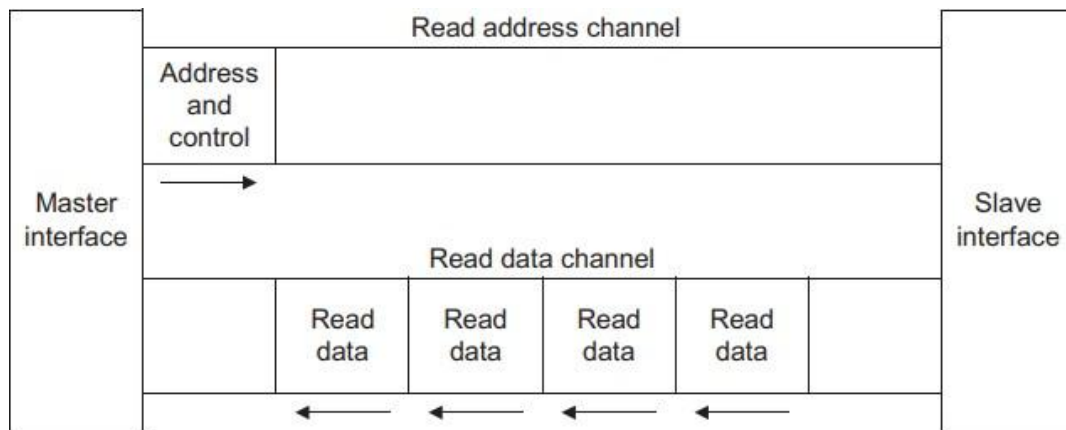
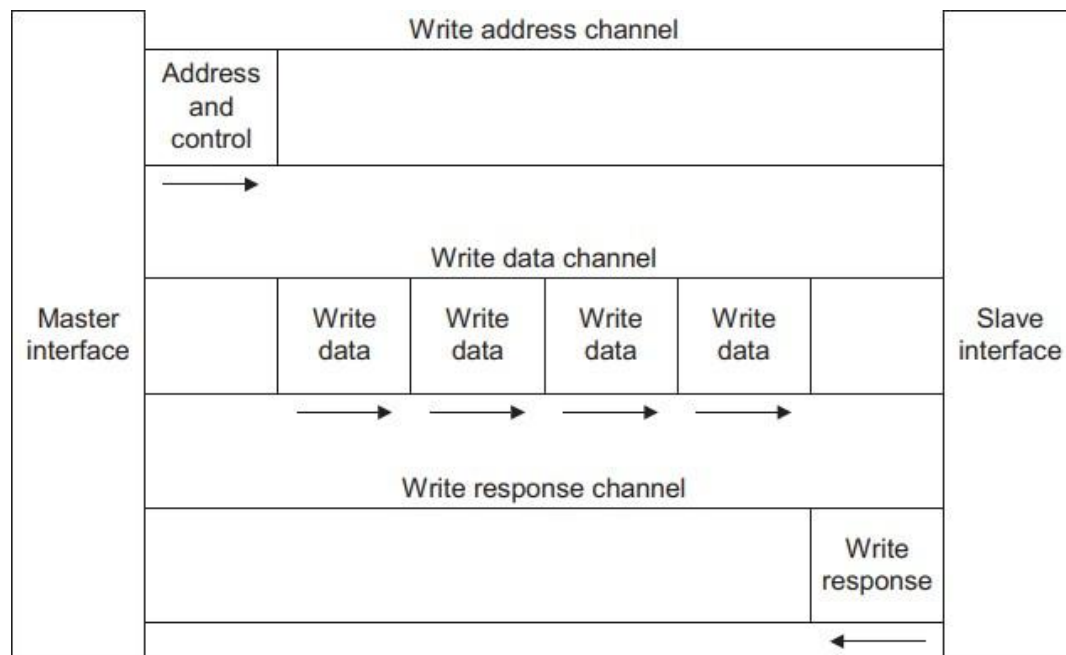

Fig. 1-1: AXI Read Channel Architecture
Fig. 1-2: AXI Write Channel Architecture
- g. The conceptual architecture of AXI architecture is shown in Fig. 1-1 and Fig.1-2. The TOP module of AXI code will be provided on the course website. Please download and complete them by yourself.